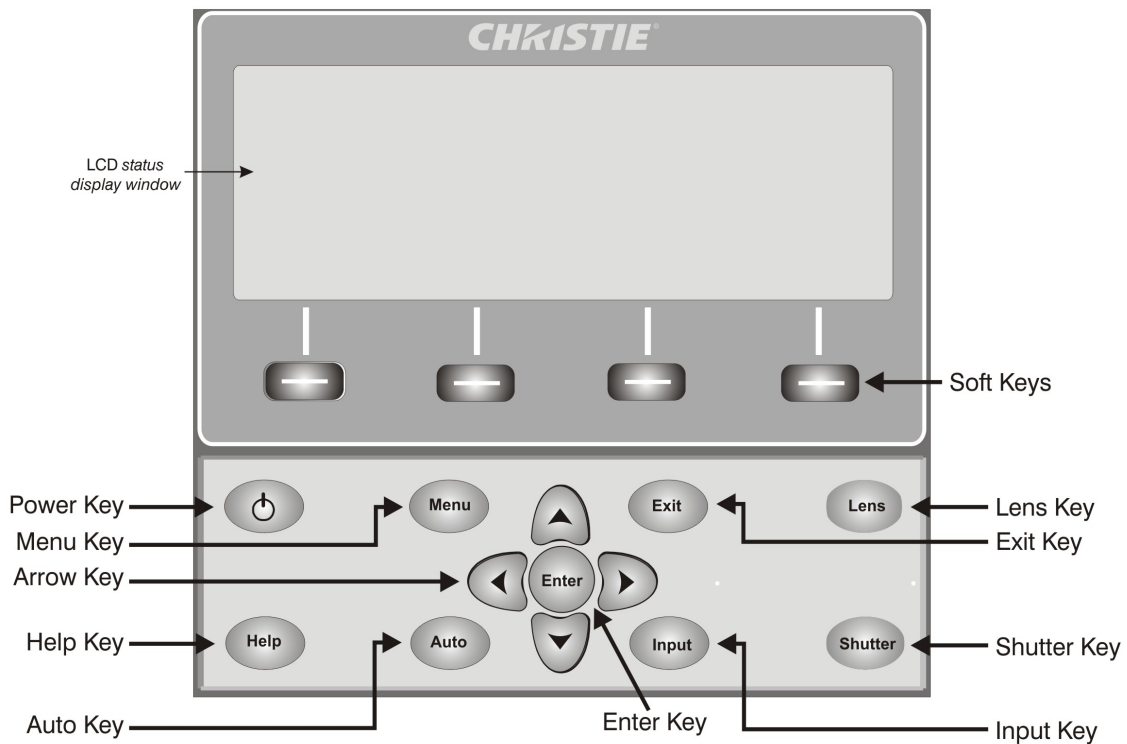

FIGURE 3-2 BUILT-IN KEYPAD
- **Built-in Keypad:** Located at the side of the projector, see **Figure 3-2**.